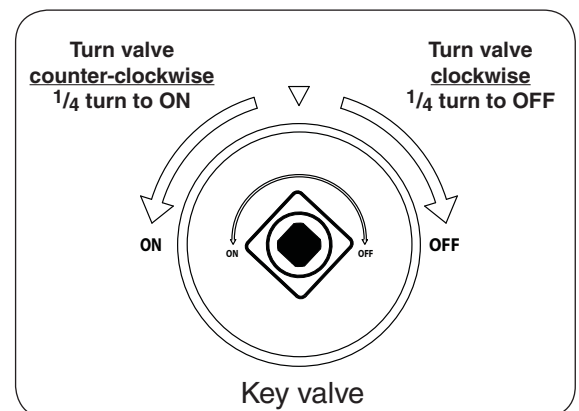

Fig. 29-2
4. **Once the match is burning and in position**, turn the key valve counter-clockwise a $1/4$ turn to the **ON** position (see Fig. 29-2). Your burner should light.
To extinguish your gas burner, turn the key valve clockwise a $1/4$ turn to the **OFF** position (see Fig. 29-2). Be sure the key valve is turned fully off to avoid any gas leakage.